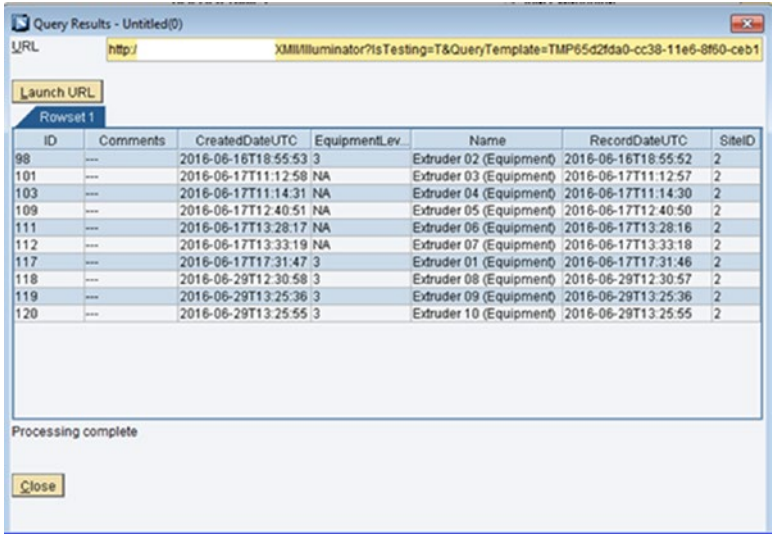

Figure 6-10. Internal Frame Query execution mode
- *Internal frame*: This is an internal frame in the SAP MII Workbench environment that displays the query result, as shown in Figure 6-10.